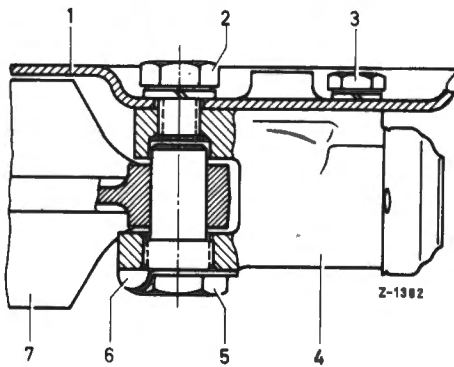

Fig. 42-5/3
6. Screw in stop screw or hexagon screw (2) (Figs. 42-5/2 and 42-5/3).